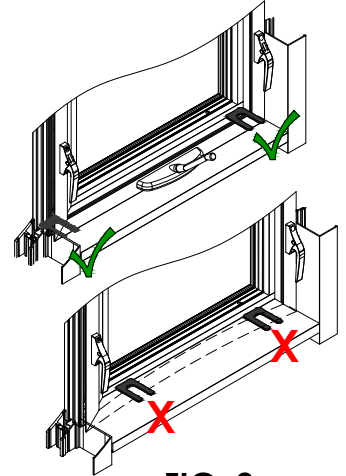

FIG. 2
- Set Horseshoe shims onto the sill opening at each corner. Carefully set the vent onto the shims. See **FIG. 2**